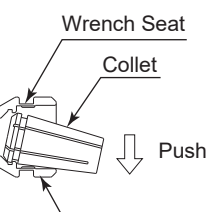

Fig. 5
- The collet and collet nut are secured by a groove in the collet and a flange in the collet nut. To remove the collet hold the collet nut in one hand and push diagonally down on the collet. The collet should be released. (Fig. 5)
- Install the new collet in the collet nut by positioning the collet in the collet nut and pressing down on a flat surface. (Fig. 5)